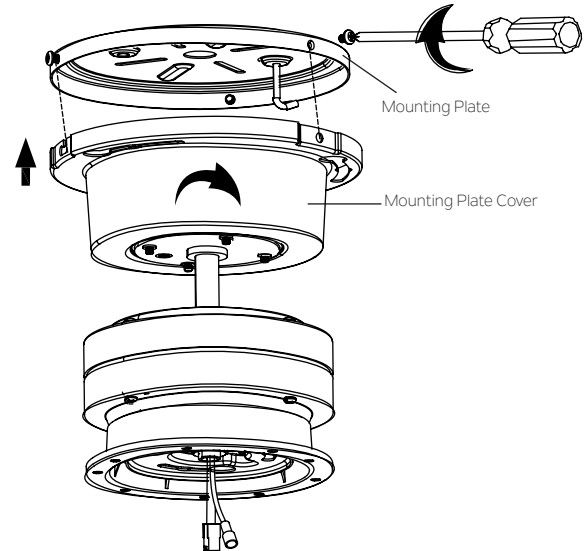

Fig. 11
**Step 2.** Release the motor assembly from the J hook, raise the motor assembly up to the mounting plate, align the slot holes on the mounting plate cover with two loosened screws on the mounting plate. Rotate the mounting plate cover until two loosened screws lock in place at the narrow end of key holes. Re-install the screw removed on step 1, tighten three screws securely. (Fig. 11)